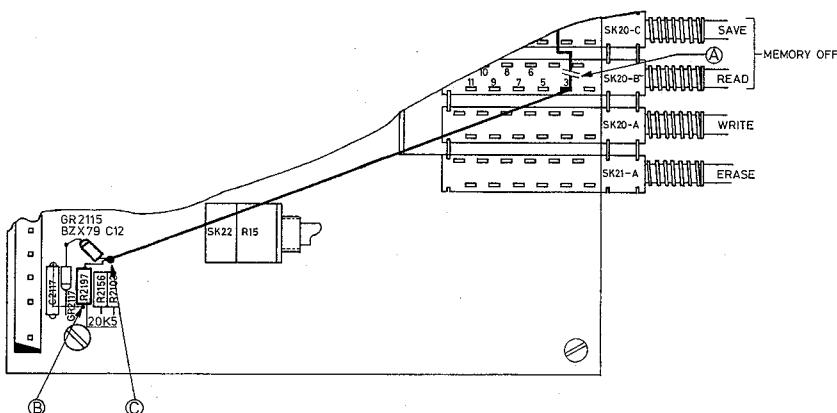

Fig. 1. Part of variable persistence and storage unit.
2. Interrupt the track (on the track-side of the p.w.b.) between point 3 of SK20B (READ) and the anode of GR2117 as indicated in fig. 1 A
4. Solder one side of a resistor of 20k5 (5322 116 55255) on the point, which is connected with C2117 as indicated in fig. 1 B (on the component side of the p.w.b.)
5. Solder between the resistor of 20k5 and the anode of the zenerdiode GR2117 a zenerdiode (GR2115) BZX 79 C12 (4822 130 34197). The cathode of GR2115 to the anode of GR2117 (see fig. 1)
6. Mount an interconnection wire between the anode of GR2115 (fig. 1 C) and point 3 of the switch SK20B (READ)